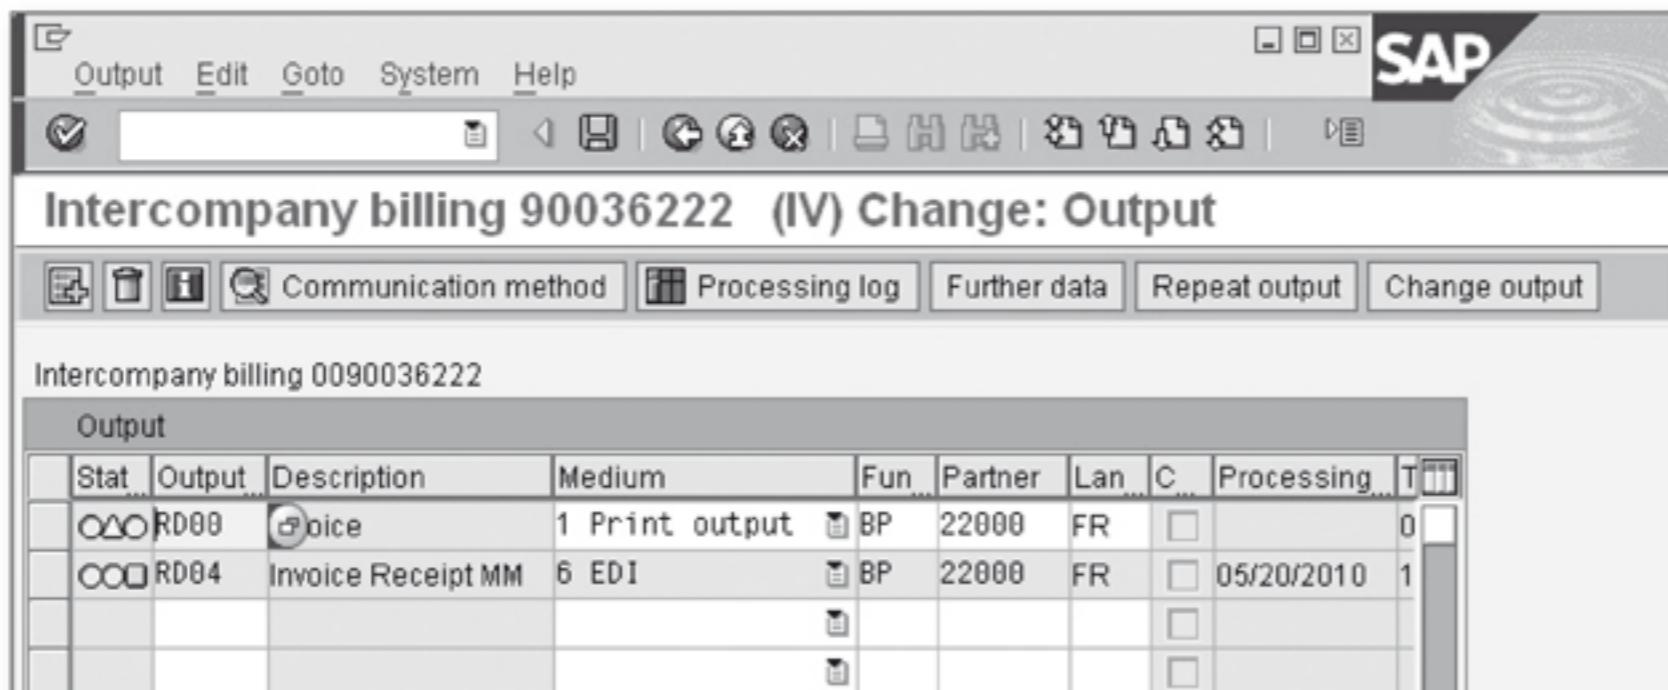

Figure 3.58 Intercompany Billing Output – RD04 Condition for MM Invoice
- ▶ **Automatic invoice receipt:** If you're planning on automating the invoice receipts creation, your output conditions will require RD04 – Invoice Receipt MM to be defined and determined during intercompany billing document creation (see Figure 3.58). Automatic posting to vendor account is triggered when message type RD04 is processed into an EDI (Electronic Data Interchange) doc-